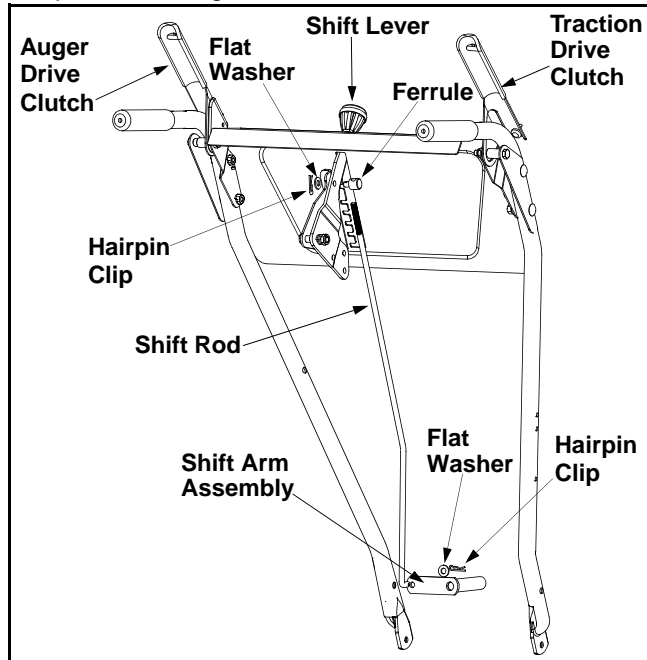

Figure 10
- Rotate the shift arm assembly counter clockwise as far as it will go. Insert the shift rod through the shift arm assembly. When installed, the shift arm assembly should point left. Secure with flat washer and hairpin clip. See Figure 10.
- Thread the ferrule onto the shift rod, up or down the shift rod and align with the far hole on the narrow side of the shift lever assembly behind the handle panel. See Figure 10.